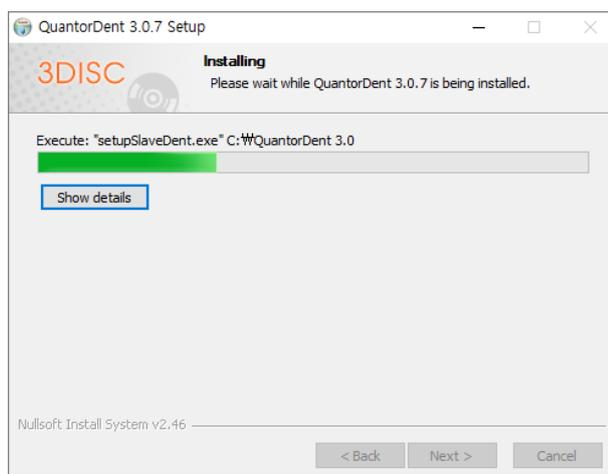

Figure 2.15 Installation Status Dialog Box
- Installation status will be displayed as shown in Figure 2.15.